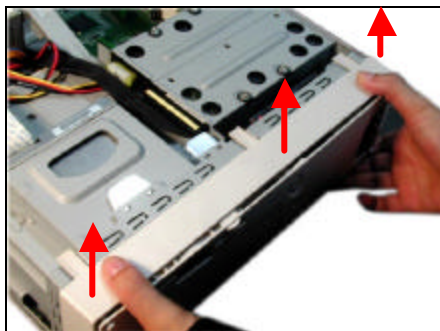

Figure 3.2
- i. Gently lift the three tabs as shown in [Figure 3.2] below.
- ii. Tilt the front cover downwards and ease it away from the front of the unit, as shown in [Figure 3.2] above.